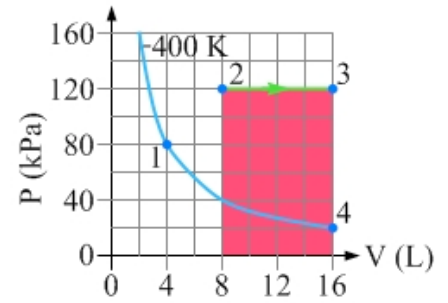

Figure 15.17: The work done by the gas in the 2 → 3 process equals the shaded area under the curve.
Step 3 – Analyze the 2 → 3 process. The work done by the gas in the 2 → 3 process is the area of the shaded region in Figure 15.17: